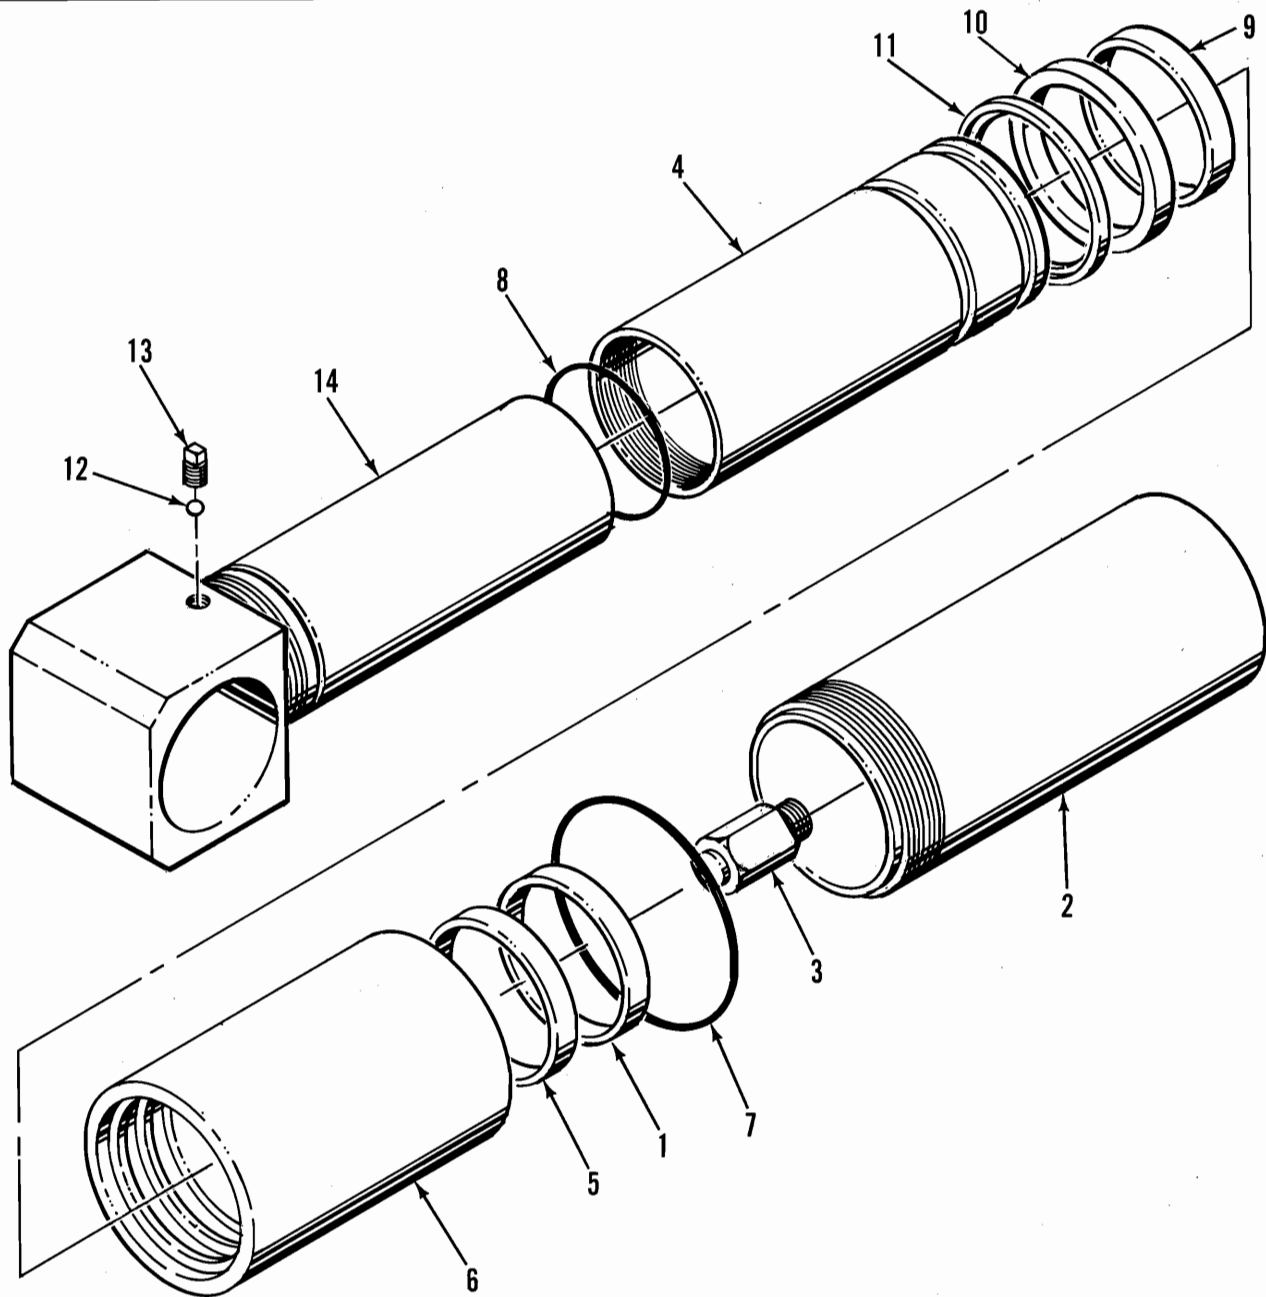

Figure 15. Lift Cylinder
(1) Refer to Figure 15, unscrew and withdraw the barrel tube (2) from the mount tube (6).
(2) Unscrew the clevis rod (14) from the rod tube (4).
(3) Withdraw the rod tube (4) from the mount tube (6).
(4) Remove the bleeder screw (13) to remove the bleeder ball (12) from the clevis rod (14).
(5) Remove the static o-ring (8) from the clevis rod (14) and discard.
(6) Remove the piston wear ring (1) and stop ring (5) from the rod tube (4) and discard.
(7) Remove the static o-ring (7), rod wear ring (9), rod seal (10) and rod wiper (11) from the mount tube (6) and discard.
(8) Do not remove the velocity fuse (3) unless replacement is necessary.